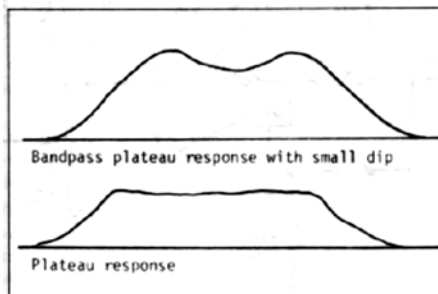

Fig. 2.
Highpass plus notch: Another new type of response. See Fig. 2.
*Add resonance to produce plateau response (see Fig. 2)
Bandpass Plateau response with small dip (see Fig. 2)